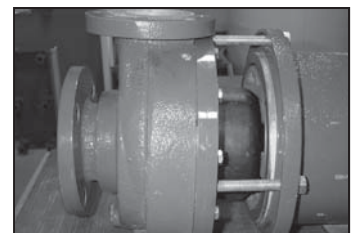

figure 4
8. Carefully slide the wet end towards the motor adapter until it touches the jackscrews (there will be some magnetic attraction) (see figure 4).
10. Bolt the wet end to the motor adapter by reinstalling the (4) 1/2" hex head cap screws (item 15) and torque evenly to 75 ft-lbs (102 N-m).